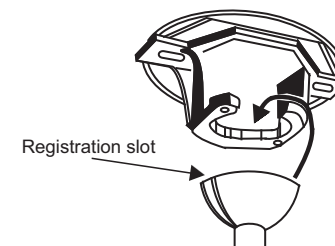

Fig. 10
Step 9. Lift the motor assembly into position and place the hanger ball into the ceiling mounting bracket. (Fig. 10)
Rotate the entire assembly until the "Check Tab" has dropped into the "Registration Slot" and seats firmly. (Fig. 10)